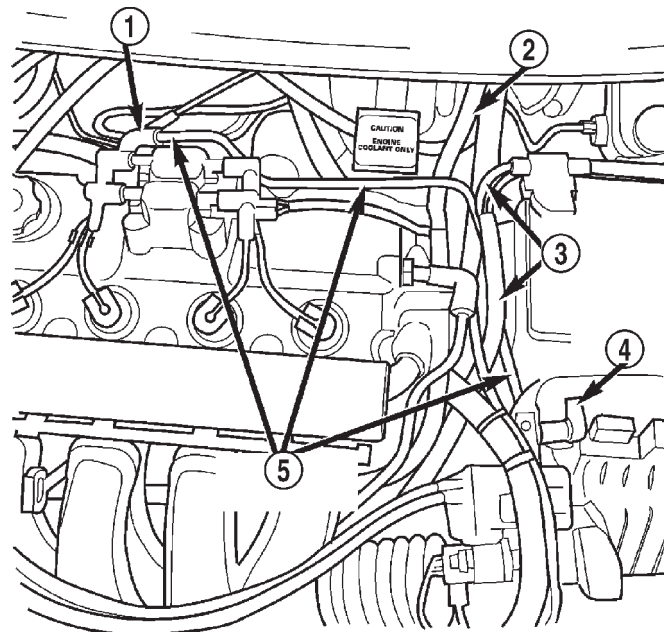

FIGURE 6
12. Connect the provided make-up air tube to the rubber elbow at the rear of the engine (Figure 6).
13. Connect other end of the make-up air tube to the rubber elbow on the air cleaner (Figure 6).